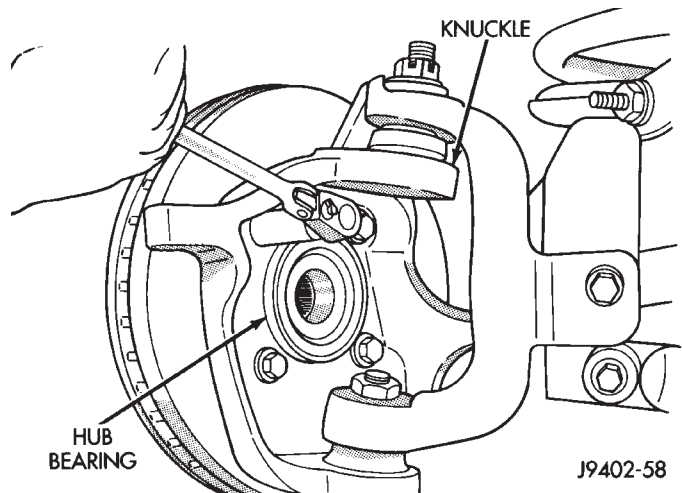

Fig. 18 Hub and Knuckle
- (1) Raise and support the vehicle.
- (2) Remove the wheel and tire assembly.
- (3) Remove the brake caliper and rotor. Refer to Group 5, Brakes, for proper procedures.
- (4) Remove ABS wheel speed sensor, if equipped. Refer to Group 5, Brakes, for proper procedures.
- (5) Remove the cotter pin and axle hub nut.
- (6) Remove the hub to knuckle bolts (Fig. 18). Remove the hub bearing from the steering knuckle and axle shaft.
- (7) Remove the brake dust shield.
- (8) Remove the axle shaft from the housing. Avoid damaging the axle shaft oil seal.